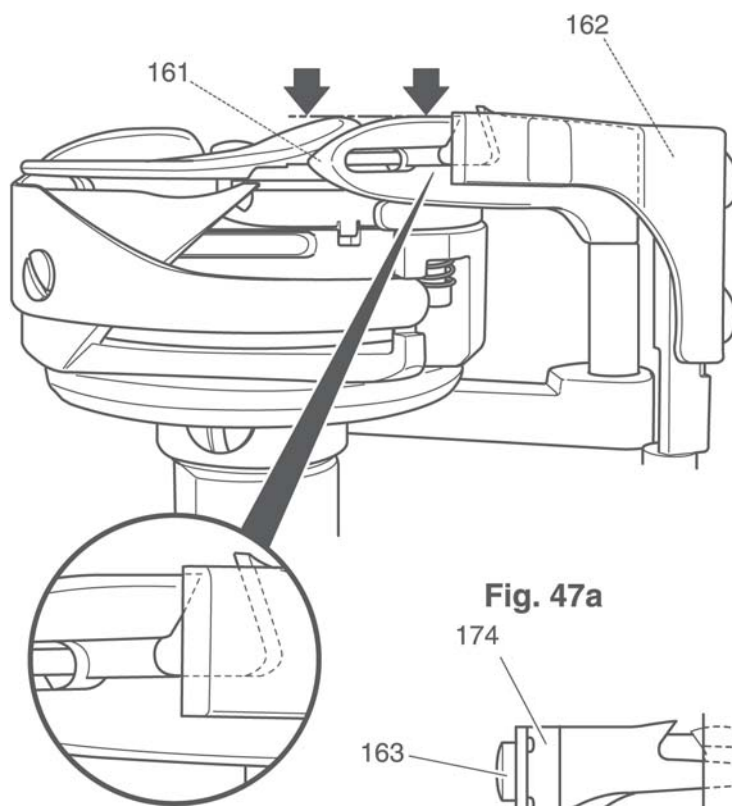

Fig. 47a
- Turn the handwheel until the thread puller is positioned as shown in Fig. 47a.
- Activate the thread cutter manually and check if there is no play between knife 162 and thread puller 161 in the position shown in Fig. 47a.
If knife 162 is not positioned according to Fig. 47a, proceed as follows: